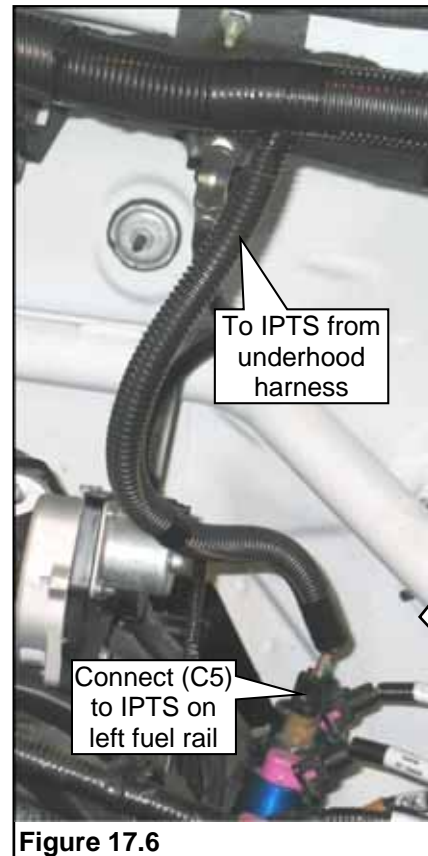

Figure 17.6
8. Make the electrical connection of the IPTS (C5) to the IPTS on the left fuel rail. **Figure 17.6.**